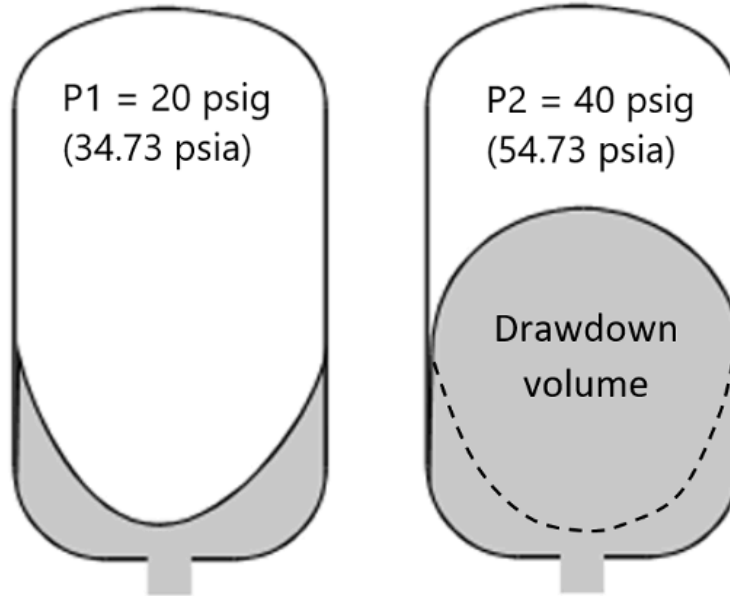

Figure 49. Drawdown volume
The amount of water stored in the pressure tank to be used between pump run cycles is known as draw down or acceptance volume. The general rule is to size the tank to match the GPM of the pump so that once the pump turns on, it will run for a minimum of one minute to fill the tank. Notice in Figure 49 that the drawdown volume is not the same as the actual tank size. The drawdown volume would
For example, if the precharged diaphragm tank in Figure 49 had 15 gallons of air volume at 20 psig (34.73 psia) cut-in we can use Boyles to demonstrate the actual amount of drawdown volume available at 40 psig (54.73 psia):
It is also worth noting that diaphragm in the pressure tank shown in Figure 49 was not bottomed out in the tank at the cut-in pressure point. This is due to the fact that the tank air precharge is set at 2-4 psi lower than the systems operating cut-in pressure. This will ensure there is not a slight pause in the water supply just before the pump is activated.
- Figure 49. “Drawdown volume” by Rod Lidstone is licensed under a CC BY-NC-SA licence.